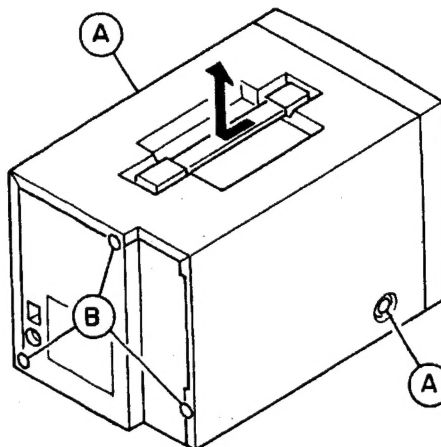

Fig. 1
- (1) Remove the 2 screws (A) shown in Fig. 1.
- (2) Remove the 3 screws (B).
- (3) Slightly pull backward as shown by the arrow and remove the top cover.